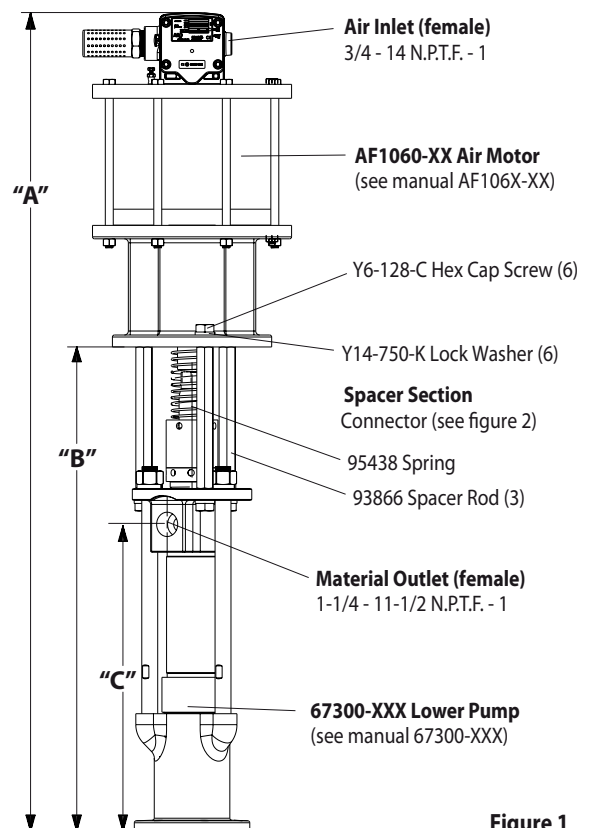

Figure 1
2. Remove the three (Y6-128-C) cap screws and (Y14-750-K) lock washers from the three spacer rods (see figure 1).